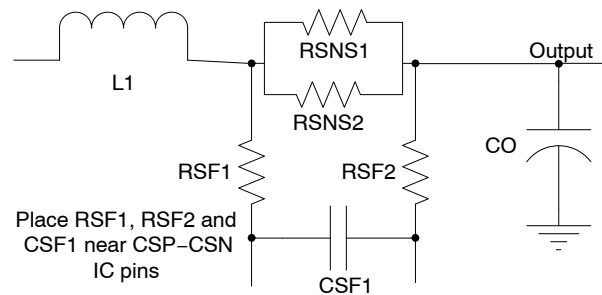

Figure 23. Current Sense Resistor  $\pi$ -Filter
- An optional R–C–R  $\pi$ -filter on the IC's CSP/CSN pins (Figure 23) is sometimes used to filter differential and common mode noise.